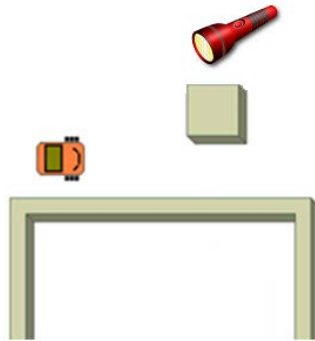

Figure 5: Robot homing
- Based upon the above model, write code to home the CEENBoT robot to the light source (see Figure 5). The robot should come within one foot of the beacon without touching it. Turn on a YELLOW LED to indicate homing (moving to the goal, light following) and path planning (updates). Turn on a RED LED to indicate path following.